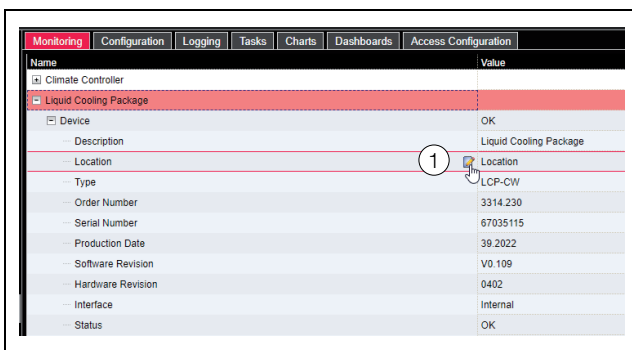

Fig. 133: Editable parameter with "Edit" symbol
For all parameters that can be changed, an "Edit" symbol in the form of a stylised notepad and pen will appear after the respective parameter if the mouse pointer is placed in the relevant line (fig. 133, item 1).